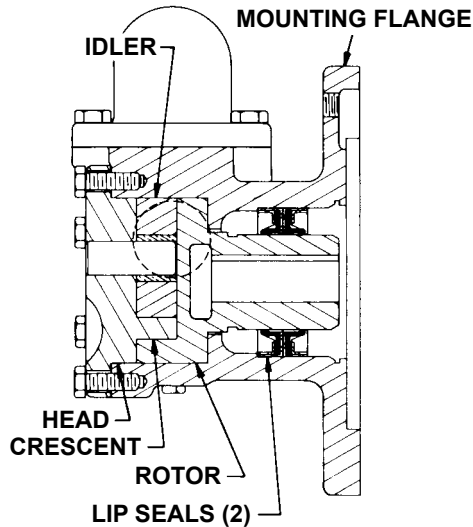

FIGURE 5
To Reassemble Model G75 or GG75 Lip Seal Pumps: see Figure 5)
6. **THE HEAD CAN NOW BE ASSEMBLED ON THE PUMP.** Tilt the top of the head away from the pump slightly until the crescent enters the inside diameter of the rotor and rotate the idler until its teeth mesh with the rotor teeth. Do not damage the head gaskets. Note correct position of the idler and crescent (**See Figure 5 and Disassembly step 2**). Tighten the head capscrews and then check the end clearance.